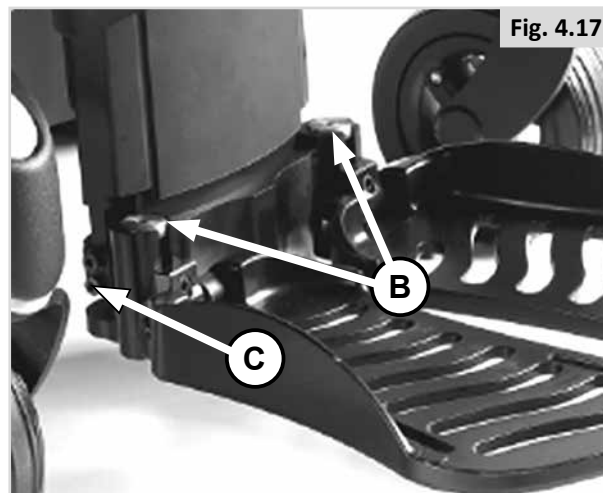

Fig. 4.17
4.6.1 Pre-set lower leg length (Fig 4.17):
- Loosen bolts and take them out (2x bottom ones) at both sides of the footplates. (C).
- Tighten bolts (2x bottom ones). (C).